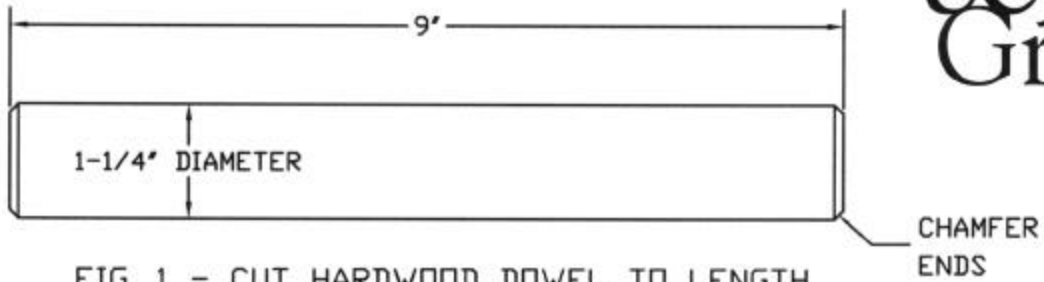

FIG. 1 - CUT HARDWOOD DOWEL TO LENGTH
1. Cut a piece of dowel to a length of 9". Then, chamfer both ends of the dowel using a file or coarse abrasive paper. (See Figure 1)